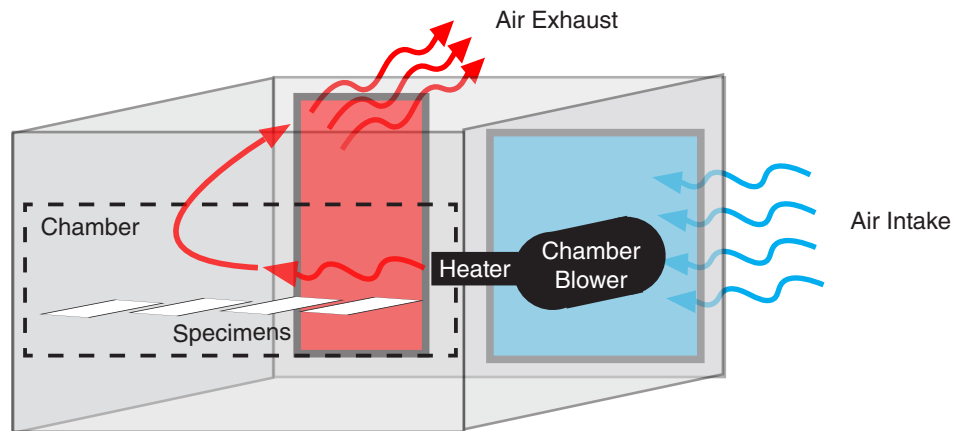

Figure 10.3a: Schematic front view Xe-1-SE air circulation.
- The black panel temperature is controlled using a variable speed blower and an electric heater (Figure 10.3a).